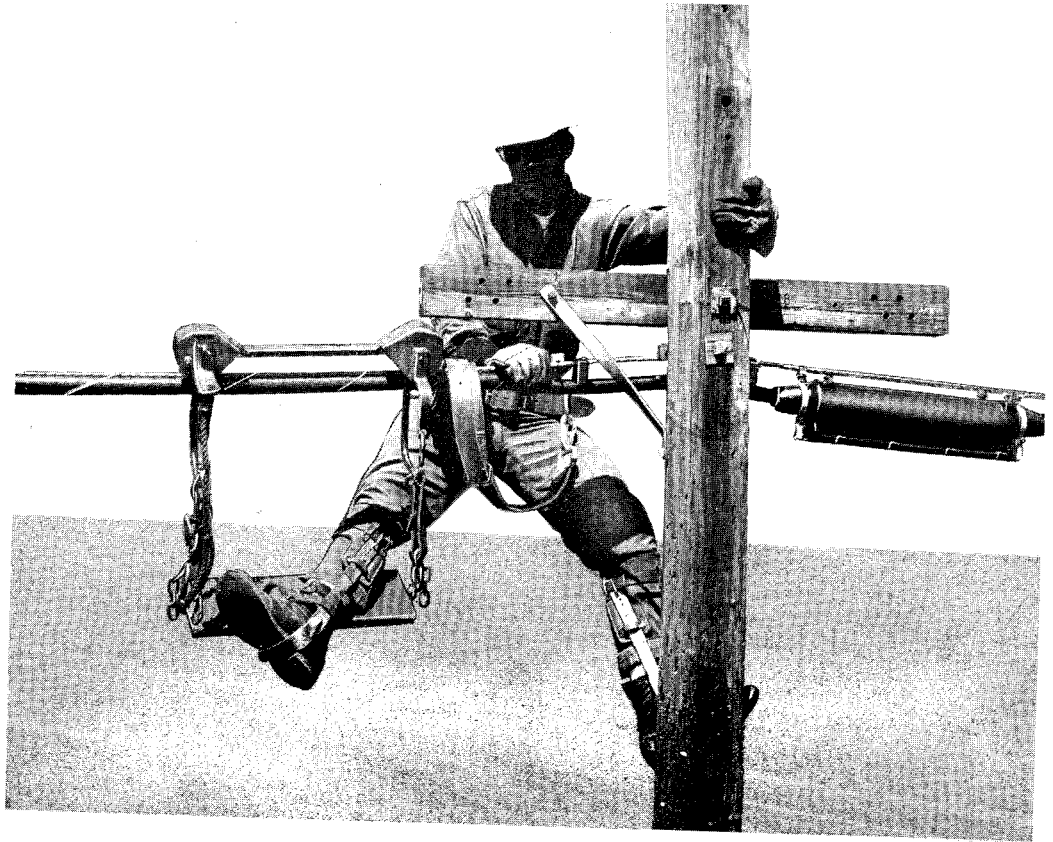

Fig. 6—Climbing Into Cable Car Placed Where Guard Arm is on Pole
6.05 To enter the cable car where a guard arm is on the pole, place the car on the strand as close to the pole as practical and set the brake. Assume a position on the pole with the knees at the height of the car seat. Unfasten the safety strap from around the pole and place it around the strand and cable. Pass the leg which is nearer the car through the car (Fig. 6) and sit in the seat straddle fashion.